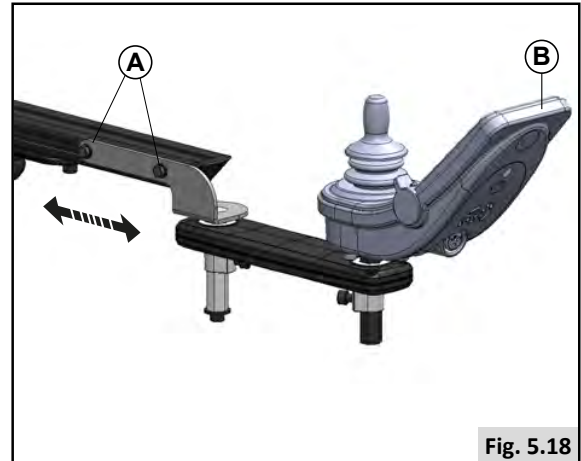
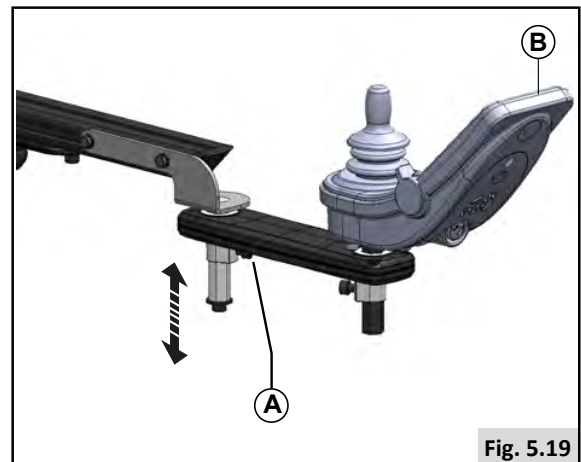

Fig. 5.18
Fig. 5.19
Setting height of the controller (1) (Fig. 5.18)
1. Loosen screw (A).
2. Slide controller (B) to desired height.
3. Tighten screws (A).
Setting height of the controller (2) (Fig. 5.19)
1. Loosen screw (C).
2. Slide controller (D) to desired height.
3. Tighten screw (C).